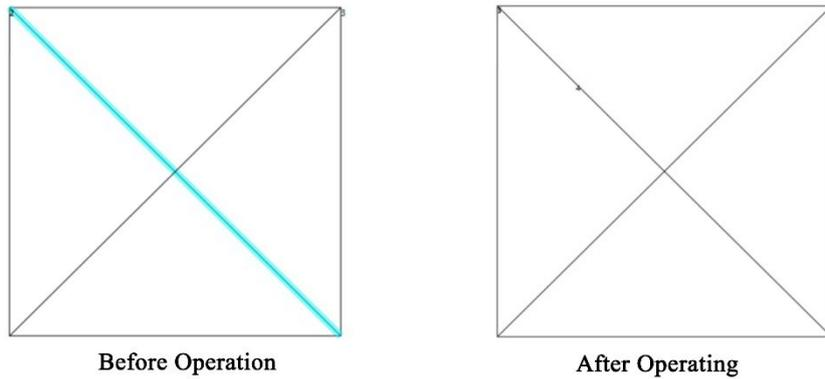

Fig. 5.6.7d Schematic Diagram of Graphic Splitting Operation
③ After clicking "Execute Split", the single graphic editing will exit, and one more graphic will appear in the graphic list. The single edited graphics will be split into two. As shown in Fig. 5.6.7d below.